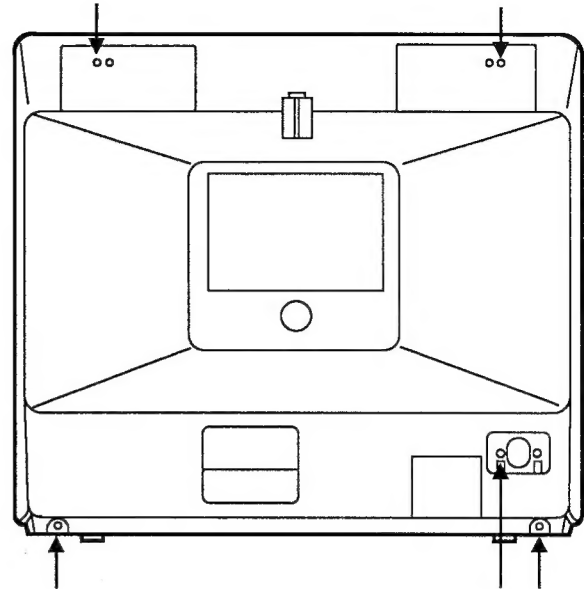

Figure 1. Cabinet Back Removal
1. Refer to Figure 1, remove 5 screws.